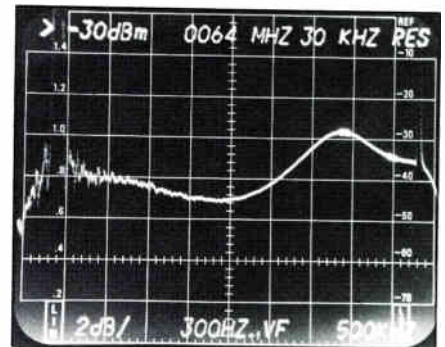

Figure 7-10 2 dB/DIV swept modulator response using 1405. Markers are 3.58 MHz and 4.18 MHz
9. On the analyzer, select 2 dB/DIV. Adjust the IF gain as required to bring the displayed waveforms on screen. On the 1405, turn off the 1.25 and 4.75 MHz markers leaving on the 3.58 MHz marker. Turn on the 0.75 and the 4.18 MHz markers. Adjust INTENSITY and WIDTH as necessary. Check for overall flatness. Verify sideband amplitudes at 3.58 MHz and channel edge amplitudes are within specified limits (figure 7-10).